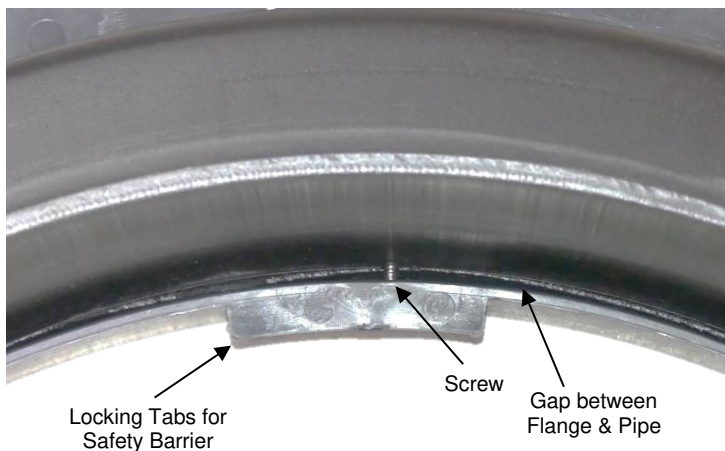
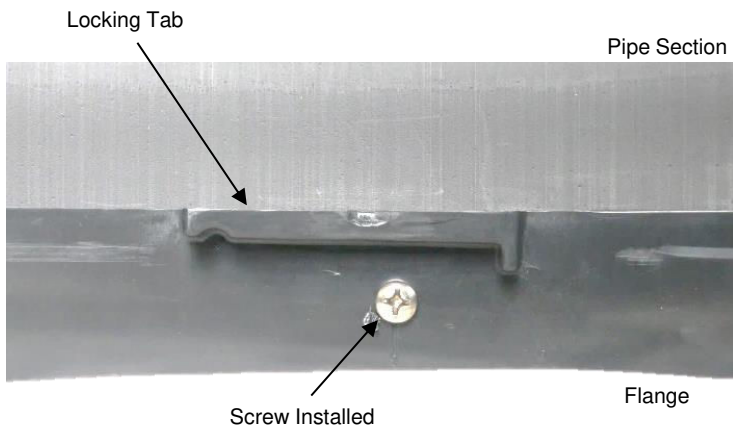
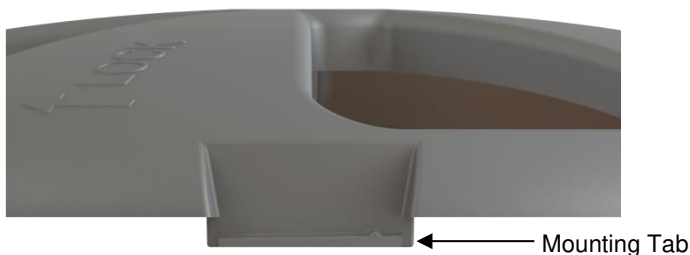
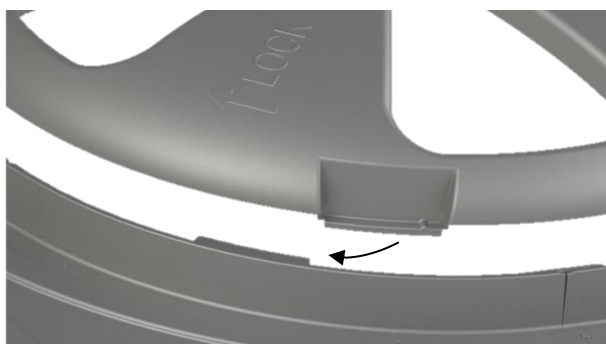

Figure 10: Screw installed (Top down view)
Figure 11: Screw installed (Side view)
Figure 12
Figure 13: Inserting Safety Barrier
- 6.) Install four (4) provided #12 x 1" screws into mounting dimples to attach the base flange to the riser pipe. Drive the screws until the head makes contact with the base flange & slightly compresses the flange (Fig 10.) & (Fig 11). There should be a visible gap (approximately 1/2") all around, between base flange & pipe once installed. OPTIONAL: Mounting dimples can be pre-drilled with 1/8" bit to facilitate screw installation.
- 7.) *Locate the four mounting tabs on the safety barrier (Fig. 12). Insert the safety barrier into the locking tabs on base flange (Fig 11), (Fig. 12) & (Fig. 13). Barrier mounting tabs may require individual adjustment and alignment while seating the barrier onto flange. Note the barrier can bend slightly to accommodate for manufacturing tolerances. Once positioned, apply downward pressure to center of barrier.*